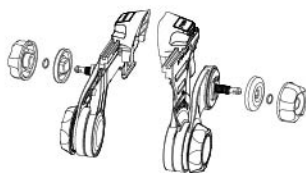

fig.13
- Unscrew main connection knob of each adapter (See fig.13).